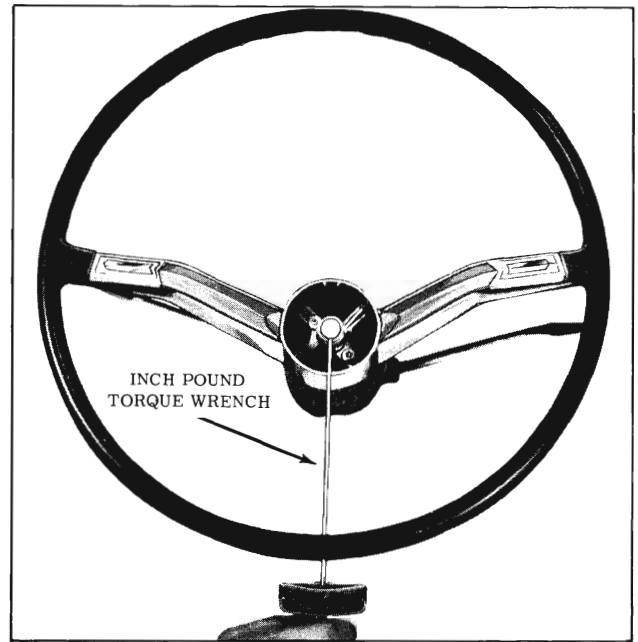

Fig. 4-5 Checking Worm Bearing Preload
3. Using an inch pound torque wrench measure the torque which is required to keep the wheel in motion at about 30° off straight ahead position. (Fig. 4-5)